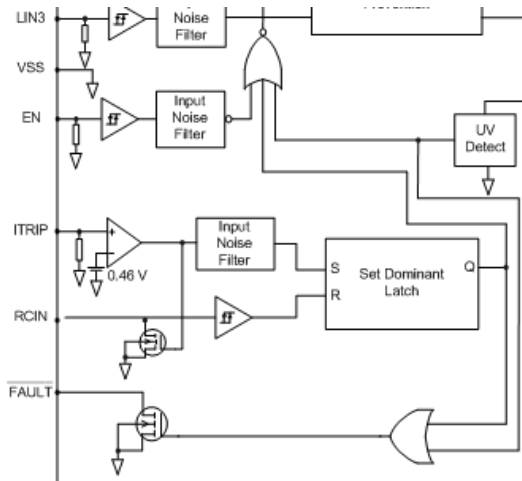
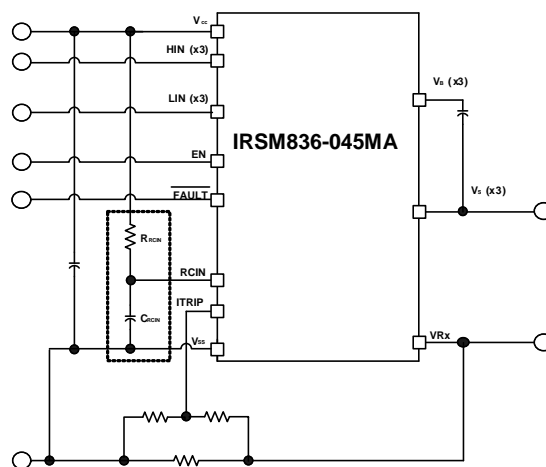

Figure 4a: Block diagram showing internal functioning of fault diagnostic and fault clear timer
Figure 4b: Programming the fault clear timer
The fault clear timer provides a means of automatically re-enabling the module operation a preset amount of time after the fault condition has disappeared. When a fault condition occurs, the fault diagnostic output (**FLT**) stays in the low state until the fault condition has been removed and the fault clear timer expires; once the fault clear timer expires, the voltage on the **FLT** pin will return to the logic-high voltage. Figure 4a is a block-level diagram that focuses on the fault diagnostic and fault clear timer functionality of the driver chip within the module. The fault clear timer is defined with a simple resistor-capacitor (RC) network on the **RCin** pin, as shown in Figure 4b.